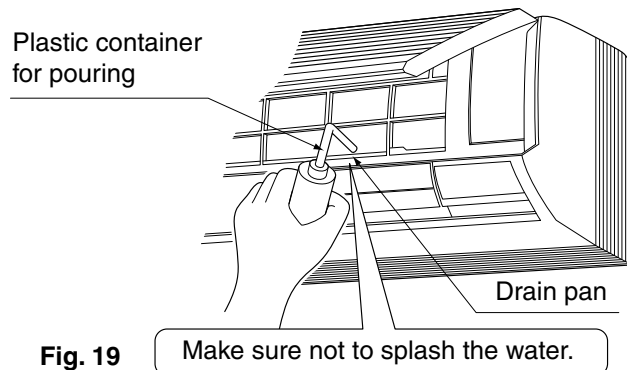

Fig. 19
(2) Make sure the drain works properly.
- After drain work is complete, perform a drain check by opening the front panel, **removing the air filter**, pouring water into the drain pan, and making sure water flows smoothly out of the drain hose. (Refer to Fig. 19)